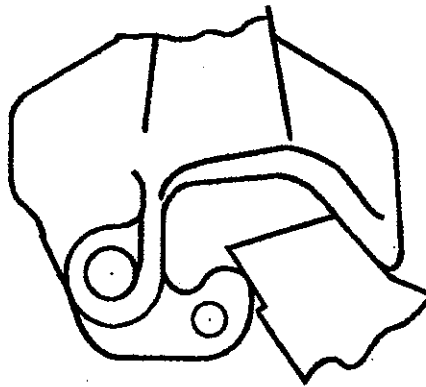

Figure 4 - Use Of No-Go Gauge
- (b) Use Not Go gauge No. 62 with the knuckle closed (see fig. 4).
- (d) Use Not Go gauge No. 62 with the knuckle closed (see fig. 4).